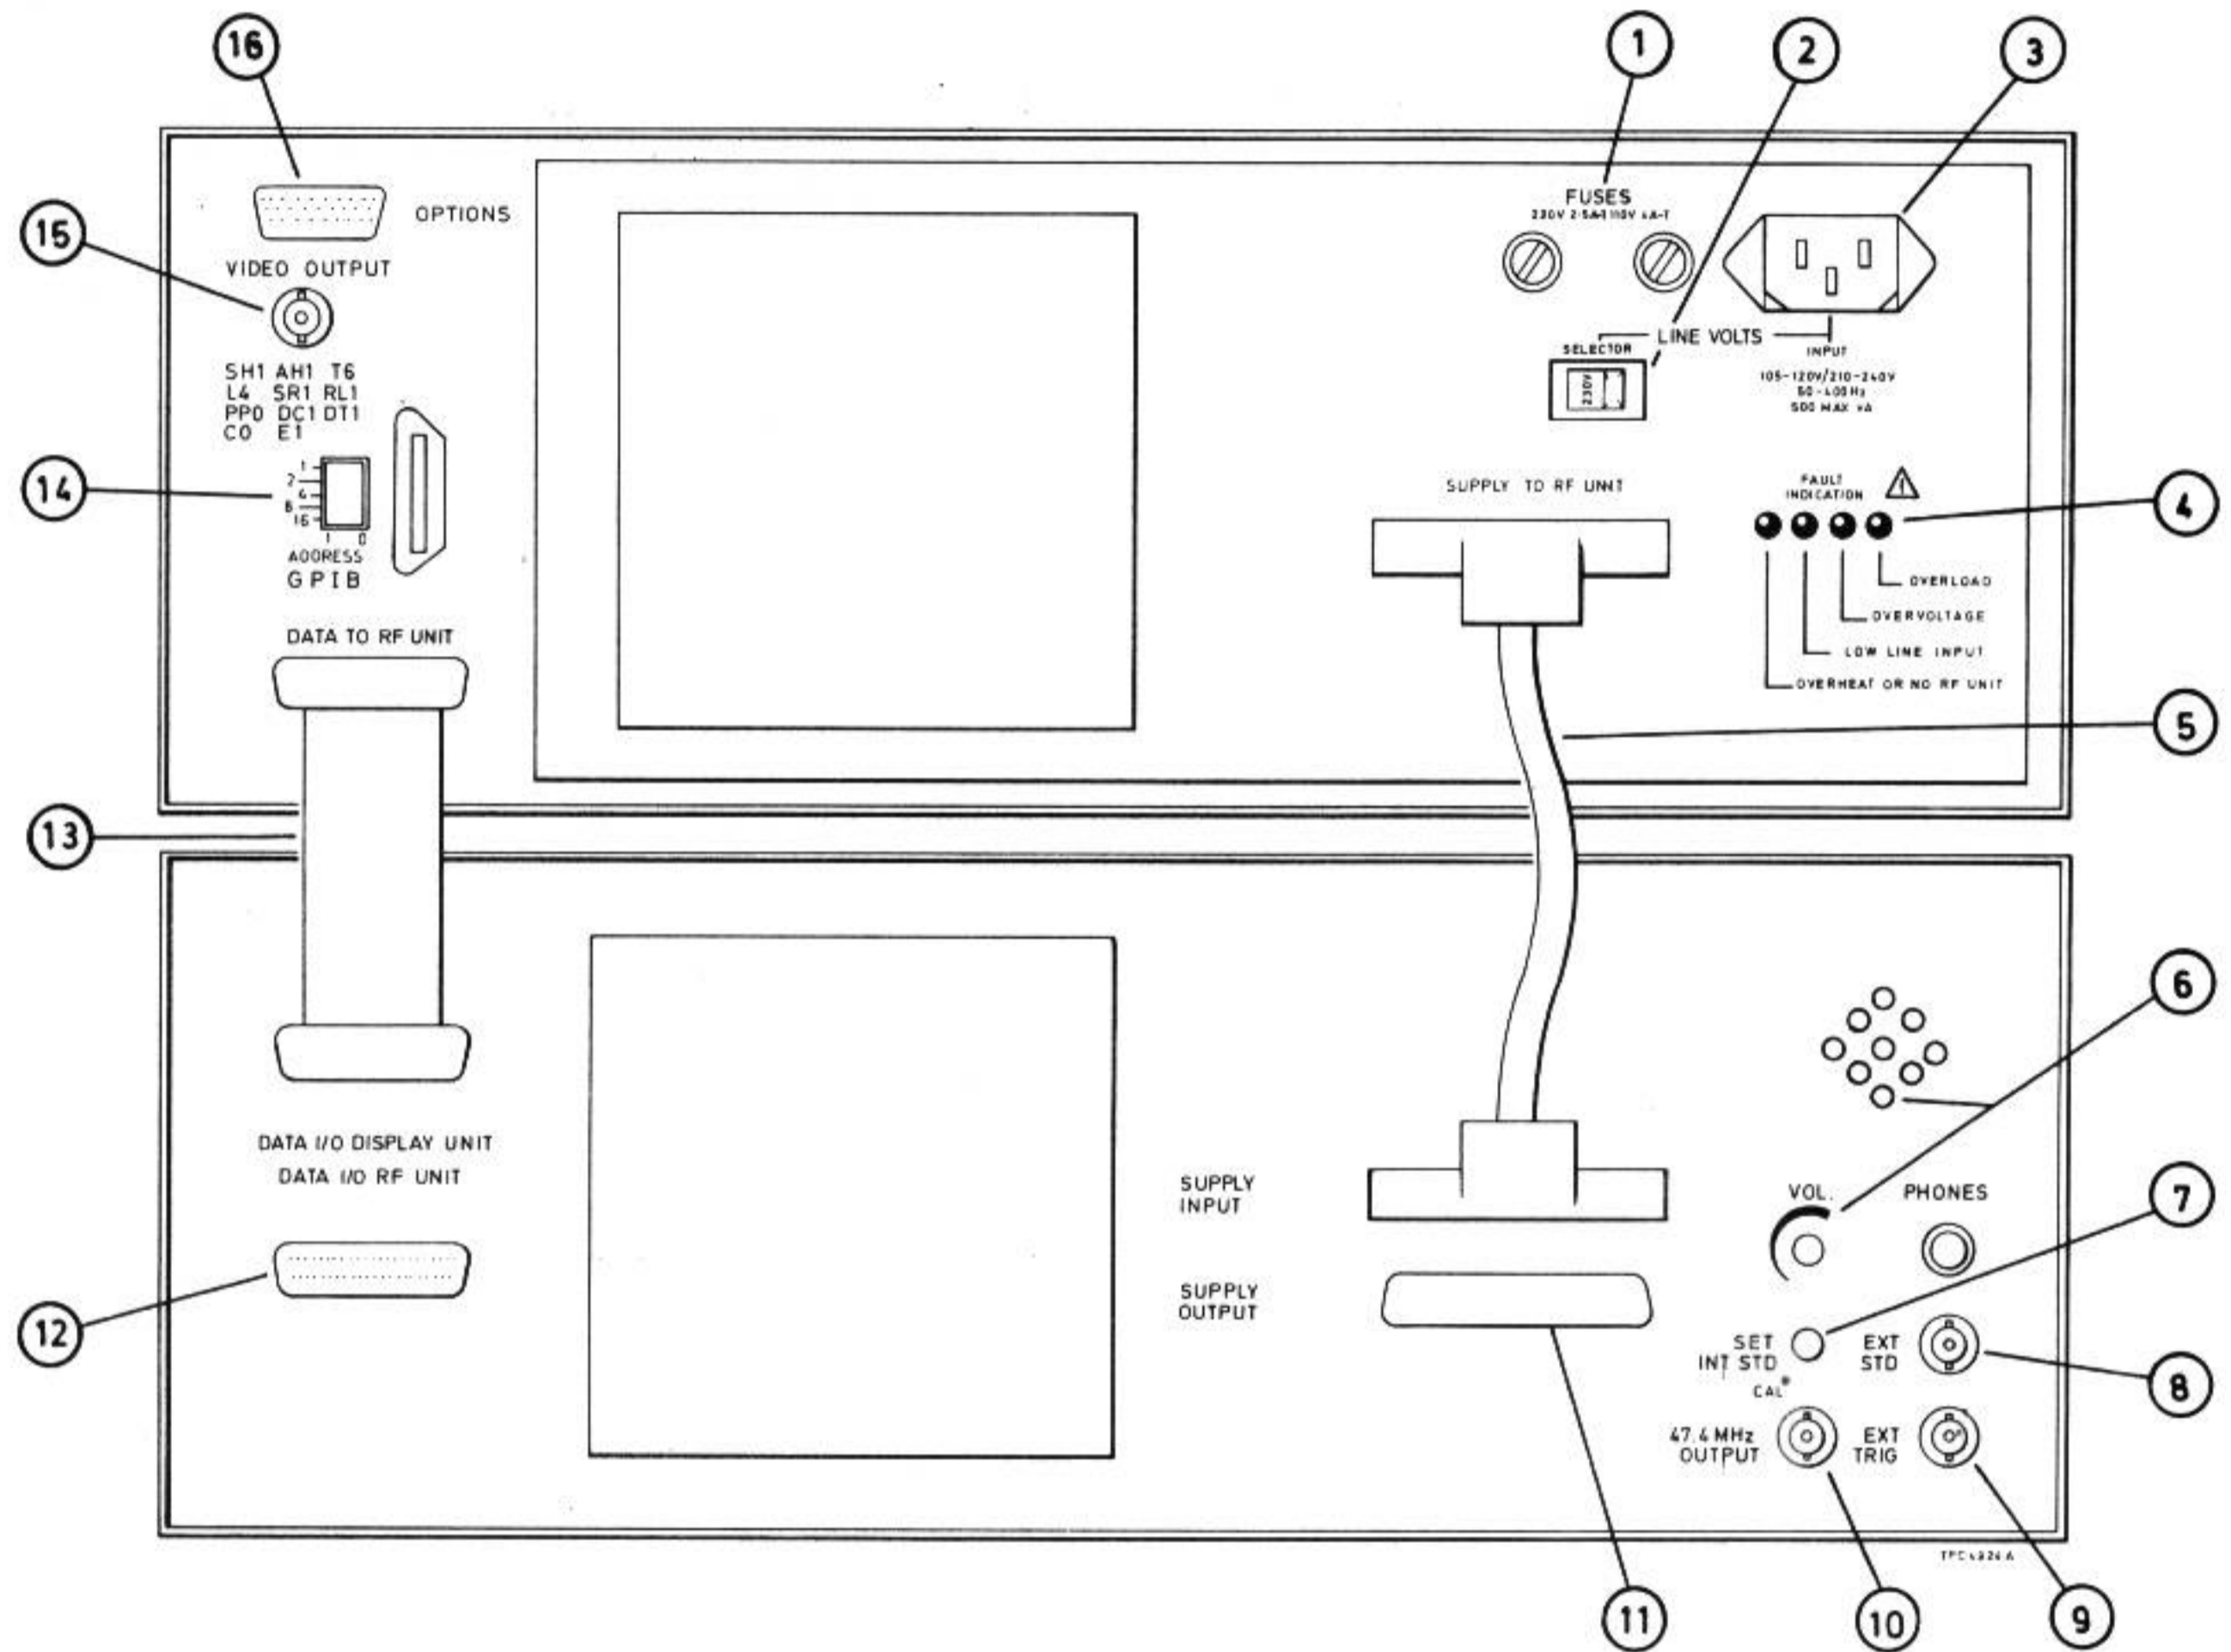

Fig. 2 Rear panel inputs, outputs and interfaces
Rear panel (refer to Fig. 2)
13. With reference to Fig. 2 fit the power supply cable assembly 43129-991G [5] and data cable assembly 43130-082H [13].